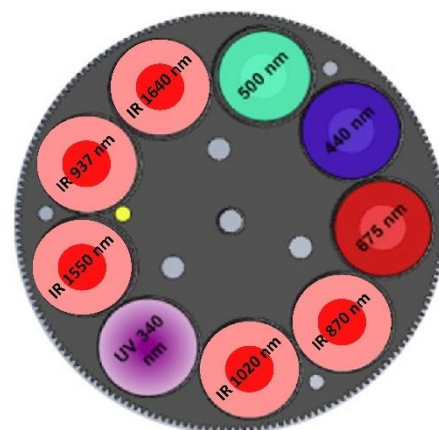

Figure 2: CE318-TL9
- **BRDF / CE318-TU9:** it uses 380, 440, 550, 675, 740, 870, 937, 1020 and 1640 nm filters (Fig.2).